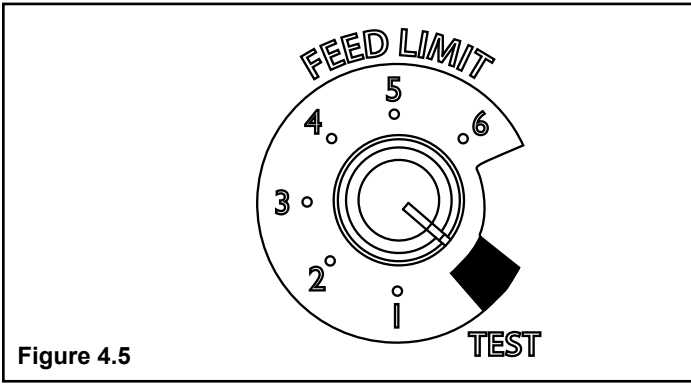

Figure 4.5
1. If starting after an empty hopper, turn Feed Adjuster to “TEST” (for one 60 second cycle). This will charge pellets into the auger tube and also allow you to check the motors for operation. Figure 4.5.